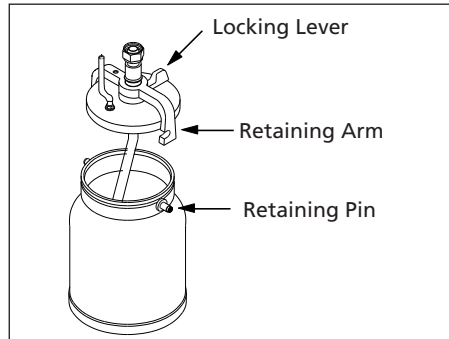

Figure 5 - Locking the cup
- Move locking lever clockwise to locked position. (See Figure 5).